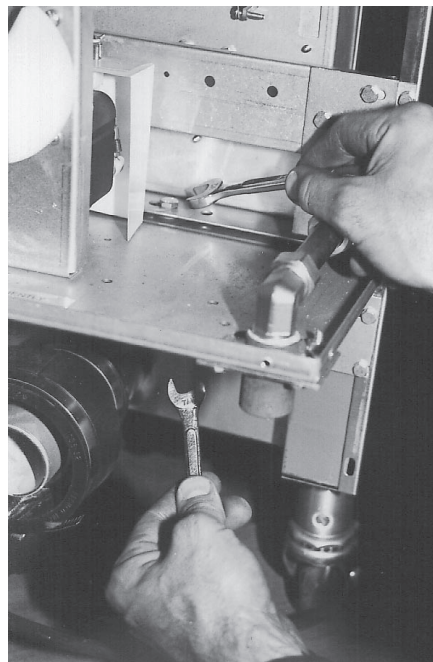

Fig. 76
8. If necessary with a $\frac{5}{16}$ " socket, remove (4) screws securing the basket lift bottom plate to the appliance frame. (Fig. 76)
12. With a $\frac{7}{16}$ " socket, remove (2) $\frac{1}{4}$ -20 nuts (from under the front of the base frame) that secure the tank support bracket to the frame assembly.
13. From rear of appliance disconnect the inlet gas tube union. (See Fig. 76)